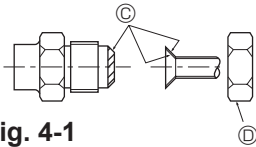

Fig. 4-1
Ⓐ (Fig. 4-1)
Ⓑ (Fig. 4-1)
4.2. Rohranschlüsse (Fig. 4-1)